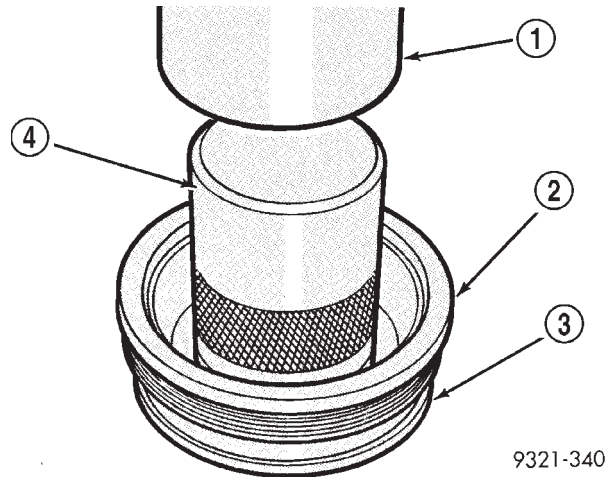

Fig. 118 Seal Removal and Installation
- (5) Using special tool 6503 loosen outer adjuster, then retighten to the index mark using a torque wrench. Record the amount of torque required to return the index marks to their original location. Remove the adjuster.
- (6) Use special tool 6558 to remove old seal and install new seal (Fig. 118).